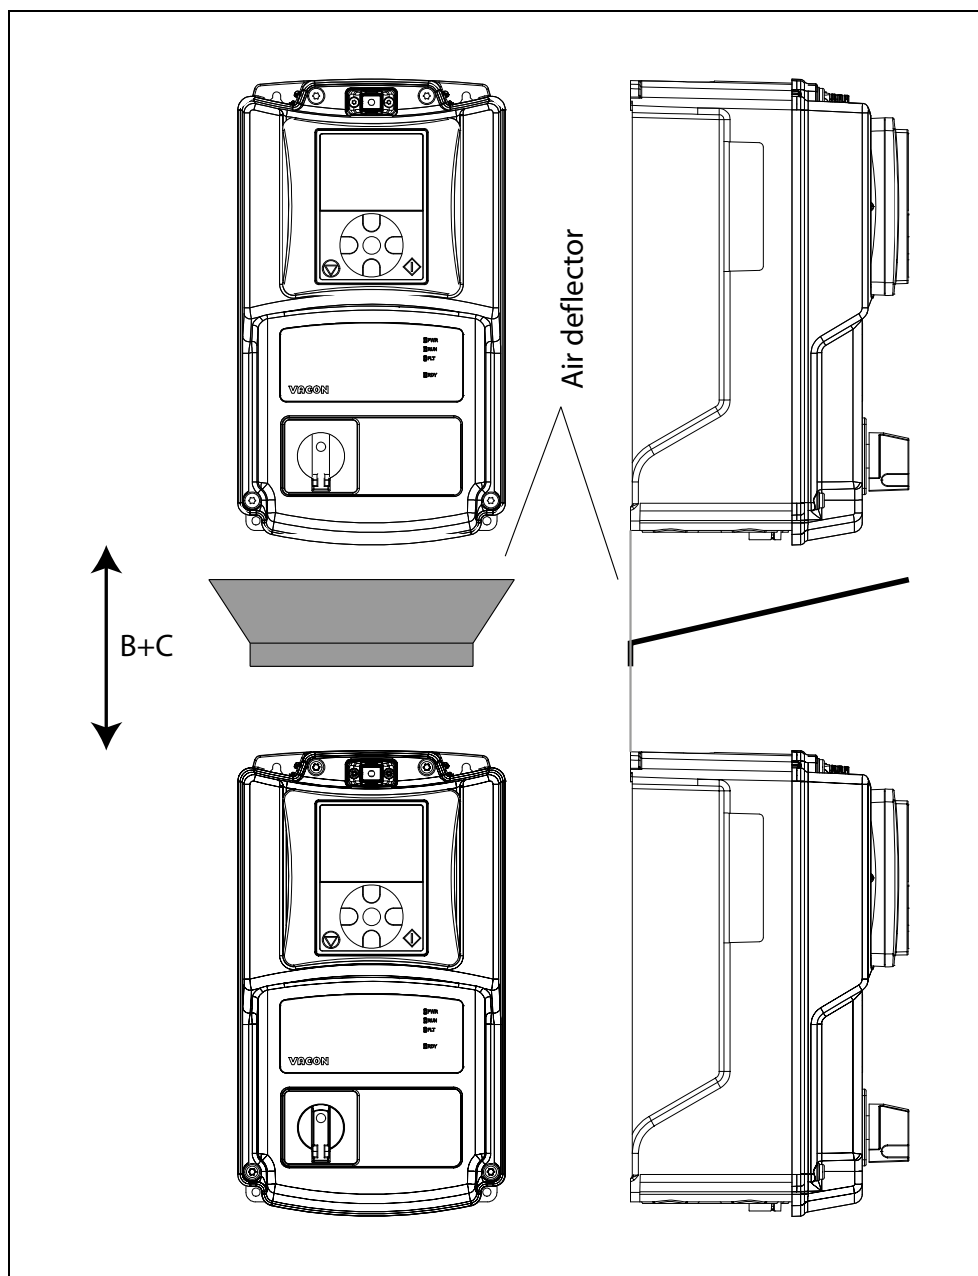

Figure 14. Installation space when drives are mounted on top of each other.
**Note** that if several units are mounted **above** each other the required free space equals B+C (see the Figure 14.). Moreover, the outlet air used for cooling by lower unit must be directed away from the air intake of the upper unit by means of e.g. a piece of metal plate fixed to the wall between the drives as shown in Figure 14..